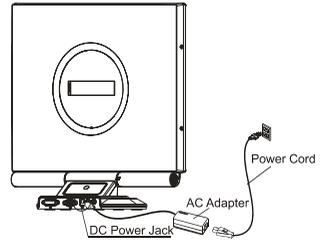

Figure 1-4
1. Connect the AC Adapter to the LCD Monitor.(See Fig. 1-4)